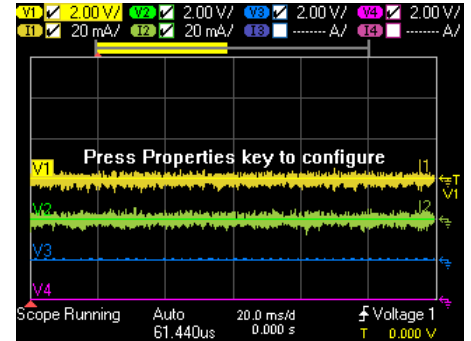
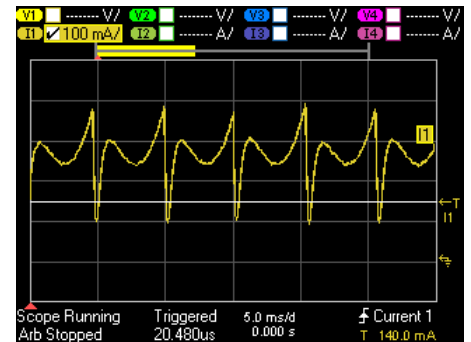
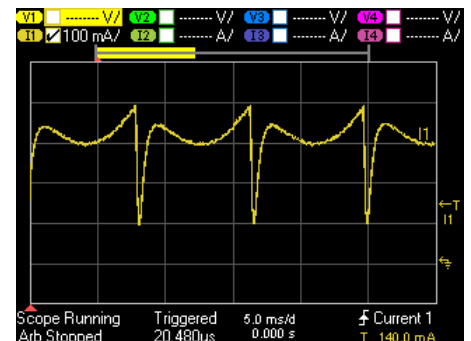

Figure 5 – The Scope View
Figure 7 – DC Fan Current Waveform (Scope View)
Figure 8 – DC Fan Current Waveform with Resistance Applied (Scope View)
Each power module for the N6705A has at least one built-in 50 kHz digitizer (20.48 μ s / sample) that is always running. The digitizers can measure either voltage or current (the N676xA modules have two digitizers and can measure V & I simultaneously in scope mode). These measurements are shown in a scope-like display in the "Scope View" (see Figure 5). Pressing the "Scope View" key a second time brings up the markers.
NOTE: You can also perform steps a. and b. while still in the "Scope View" by highlighting the appropriate signal you'd like to see (V1, I1, V2, I2,...) using the arrow keys, then press the "Enter" key to check or uncheck the box. See Figures 5, 7, & 8 below. In Figure 5, V1, I2, V2, I2, V3, and V4 are all checked. In Figures 7 and 8, only I1 is checked.
5. Highlight I1 as in Figure 7, then turn the "Volts / Div" knob until I1 is set to 100 mA/
8. Turn the "Trigger Level" knob until a stable trigger is achieved (HINT: see Figure 7 above).
9. Use your finger to apply resistance to the fan as it spins to see the changes in the waveform. Compare Figure 8 to Figure 7.